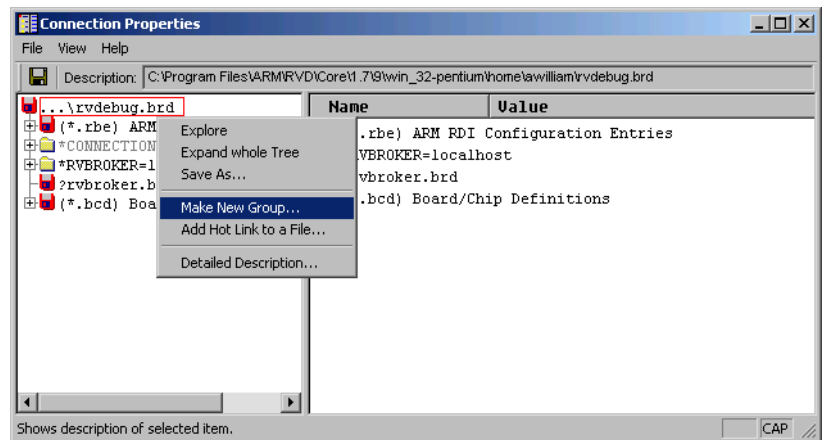

Figure B-13 Making a new group
3. Select **Make New Group** from the context menu, as shown in Figure B-13.